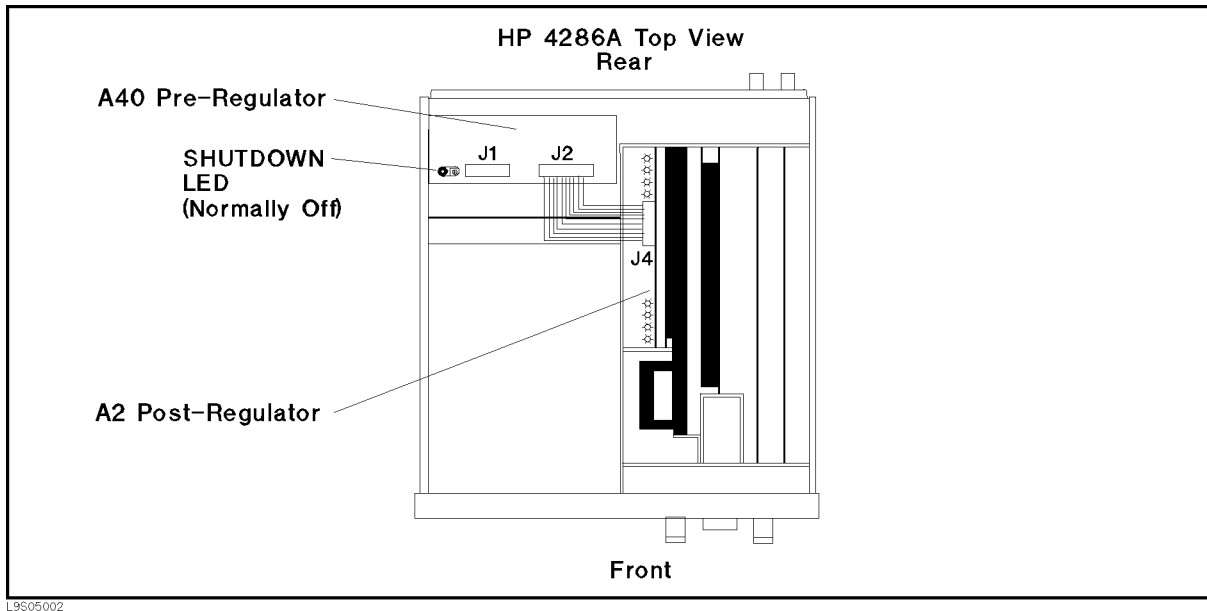

Figure 5-2. A40 SHUTDOWN LED Location
- Look at the A40 SHUTDOWN LED. The LED is normally off. The SHUTDOWN LED location on A40 pre-regulator is shown in Figure 5-2.
- Look at the A40 SHUTDOWN LED. The LED location is shown in Figure 5-2.